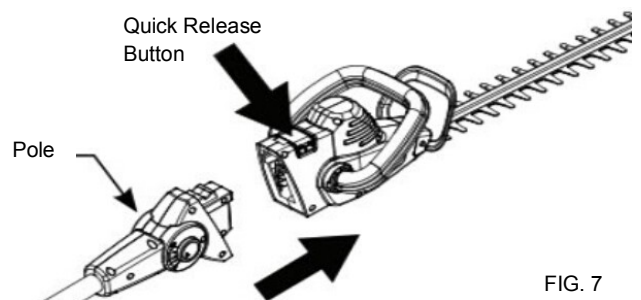

FIG. 7
2. Insert the telescopic pole into the hedge trimmer cutting head. (Fig. 7) Press the quick release button into a locked position.